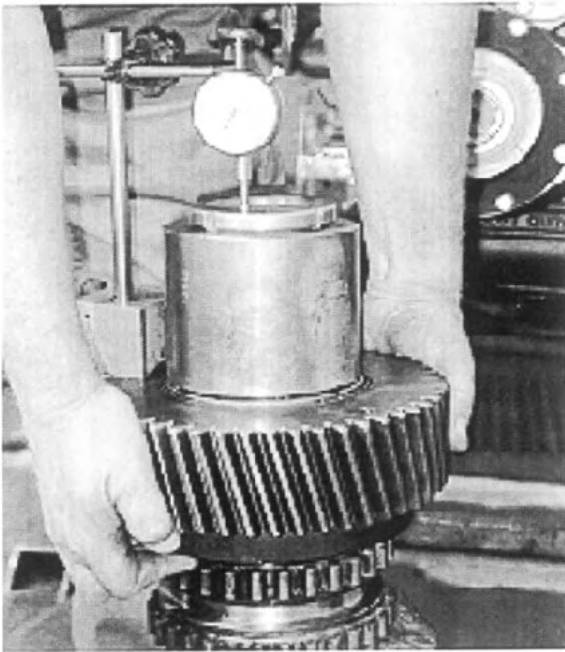

Fig. 47
- Attach a dial indicator, as shown, and record the gear float by lifting up on the lower direct drive gear. The gear float should be: **0.0005-0.0020 loose**. See Fig. 47.